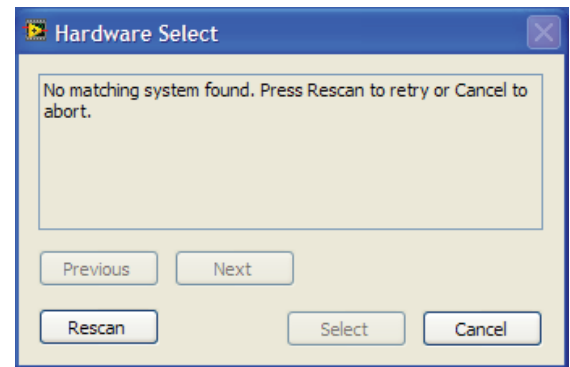

Figure 10. Pop-Up Window Error
2. If the SDP-B board is not connected to the USB port when the software is launched, a connectivity error is displayed (see Figure 10). Connect the evaluation board to the USB port of the PC, wait a few seconds, click **Rescan**, and follow the instructions.